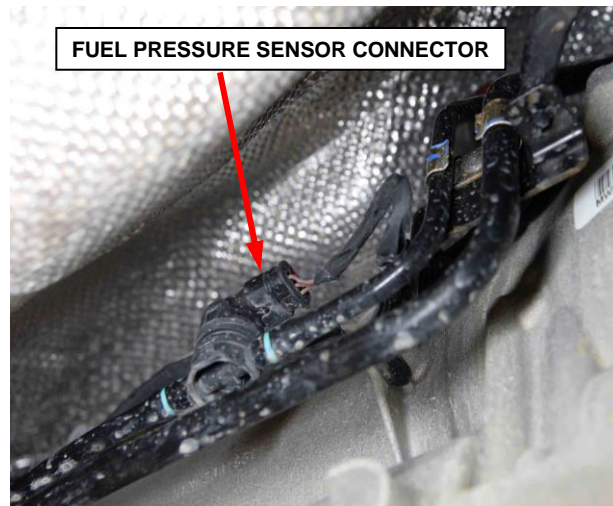

Figure 16 – Fuel Pressure Sensor Connector
28. Disconnect the Fuel Pressure Sensor wire harness connector (Figure 16).
4. Connect the Fuel Pressure Sensor wire harness connector (Figure 16).